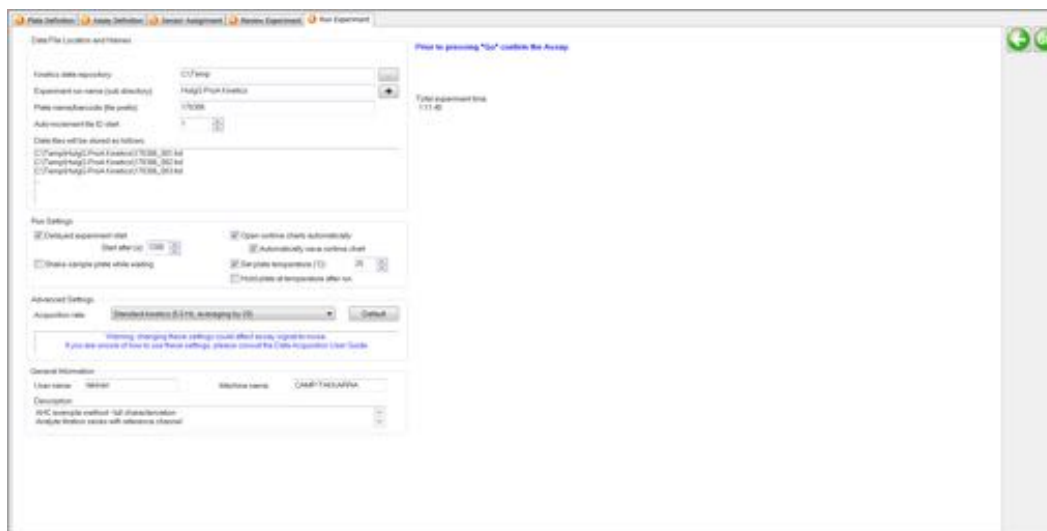

Figure 9-56: Run Experiment Window—Octet RED96
1. Click the **Run Experiment** tab, or click the arrow (➡) to access the Run Experiment window (see Figure 9-56).